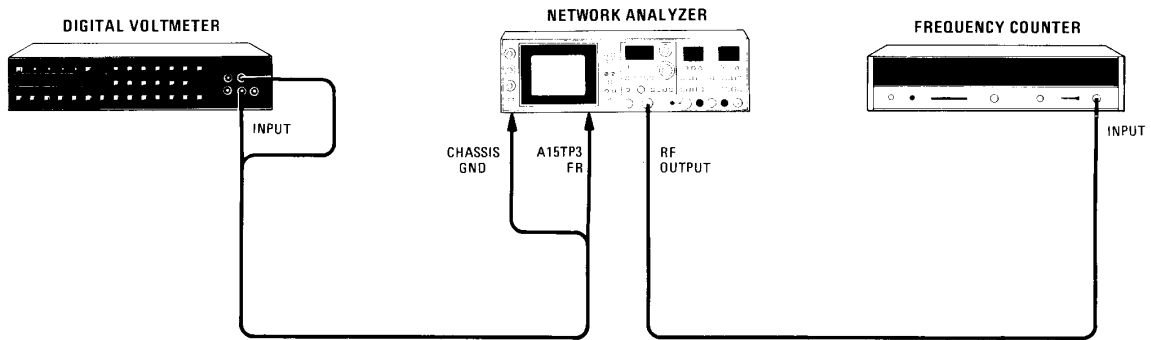

Figure 5-9. Frequency Accuracy and Sweep Width Adjustment Test Setup
- a. Connect equipment as shown in Figure 5-9.
- j. Connect equipment as shown in Figure 5-9. Set A15S1 NORM-TEST switch to TEST position. Allow instrument warmup time of 30 minutes.